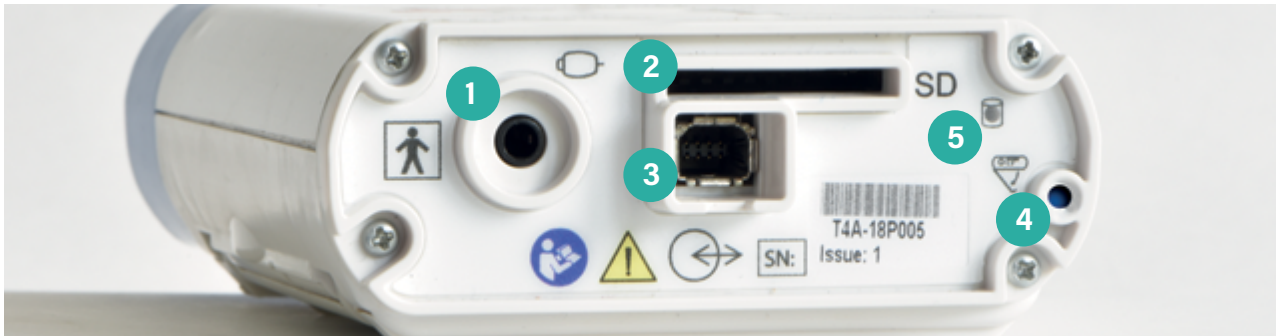

Figure 6: Connections and indicators on the T4A Amplifier, connector end
If the amplifier is to be connected using a cable, the supplied USB cable (PN 1602) is plugged into the data socket (item 3, Figure 6) on the connector end of the T4A Amplifier and into any USB port on the laptop PC. When used with a cable, the amplifier can operate with or without the battery packs.
The T4A amplifier is provided with an amber LED indicator on the connector panel (Figure 6, #5). This indicator will flash whenever there is any reading or writing activity on the SD card.
1. To insert the card, slide the card into SD card slot (Figure 6, #2) with the SD card label facing up. The card will stop against a spring.